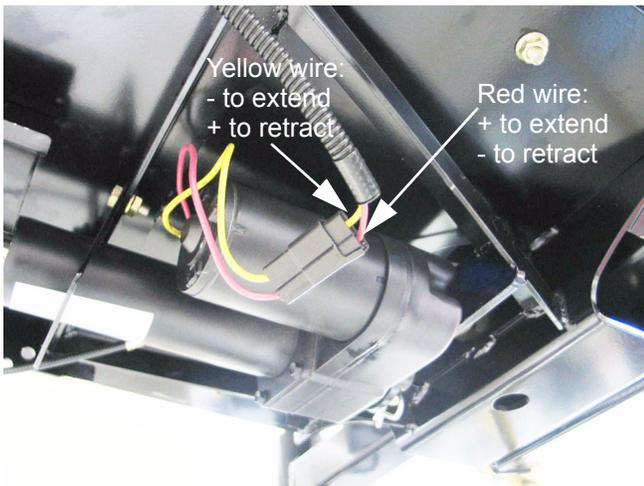

Figure 28.20
28.20. **Wing lift actuator:** The wing lift actuator responds to the wing lift control switch, connected to it by the red (R) and yellow (Y) wires. See Figure 28.20.